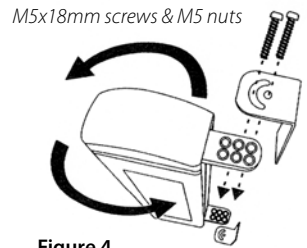

Figure 4
1). Using (2) M5 nuts and (2) M5x18mm screws attach right angle bracket (Figure 4) to units 'A' and 'B'.